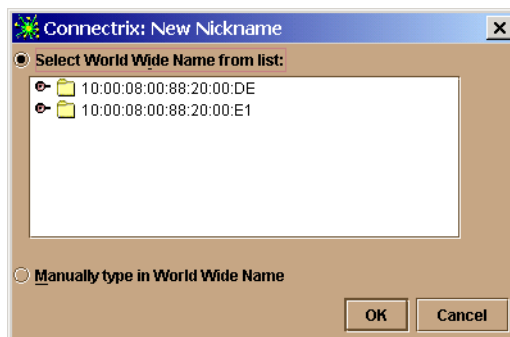

Figure 5-24 **New Nickname Window**
1. Click **New** on the Configure Nicknames dialog box. This displays a window similar to Figure 5-24.